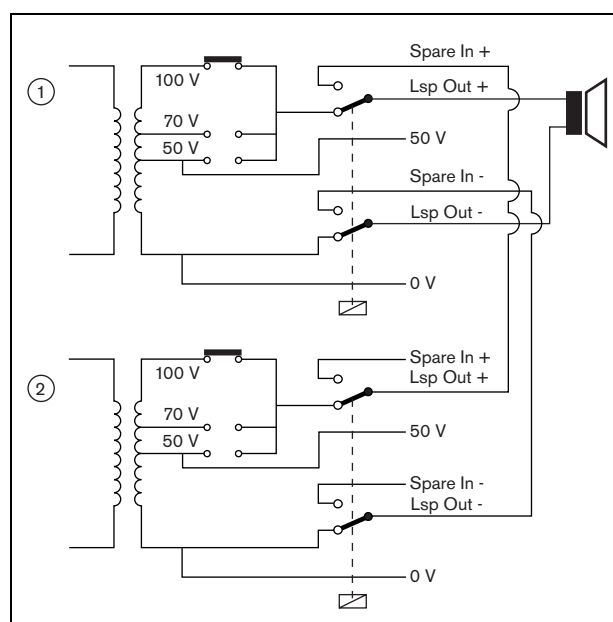
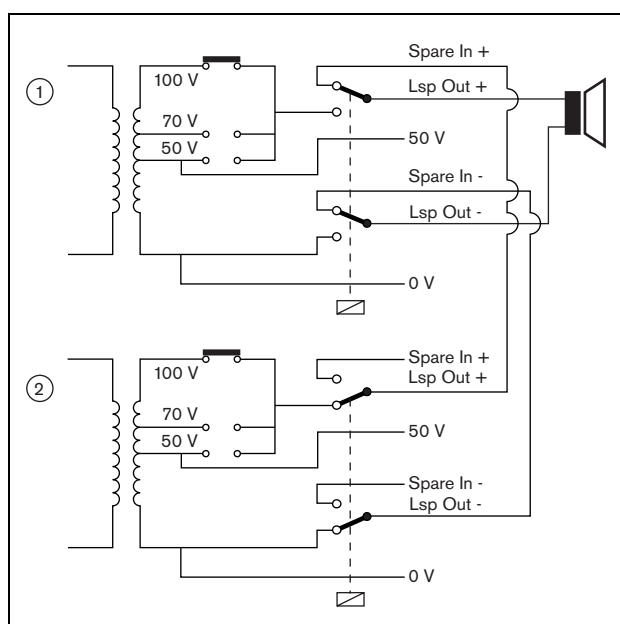

figure 9.8: Power amplifier, before spare switching
figure 9.9: Power amplifier, after spare switching
The actual spare switch is carried out by a relay. See figure 9.8 for the situation before spare switching and figure 9.9 for the situation after spare switching. As long as the main power amplifier (1) functions correctly, this relay is energized (see figure 9.8) and the audio is routed to the loudspeaker line (*Lsp Out+* and *Lsp Out-* terminals). The spare amplifier (2) does not route any audio, since it has no connection to any loudspeaker line.
At the moment the main amplifier (1) goes down, the relay is de-energized and the switches fall into their default positions: *Spare In -* and *Spare In +* (see figure 9.9). This means that the audio output of the spare amplifier (2) is routed to the loudspeaker line through the main amplifier (1). The configuration settings (see section 44.3) of the audio outputs are transferred from the main power amplifier to the spare power amplifier. The configuration settings of the audio inputs, control inputs and control outputs are not transferred to the spare power amplifier.